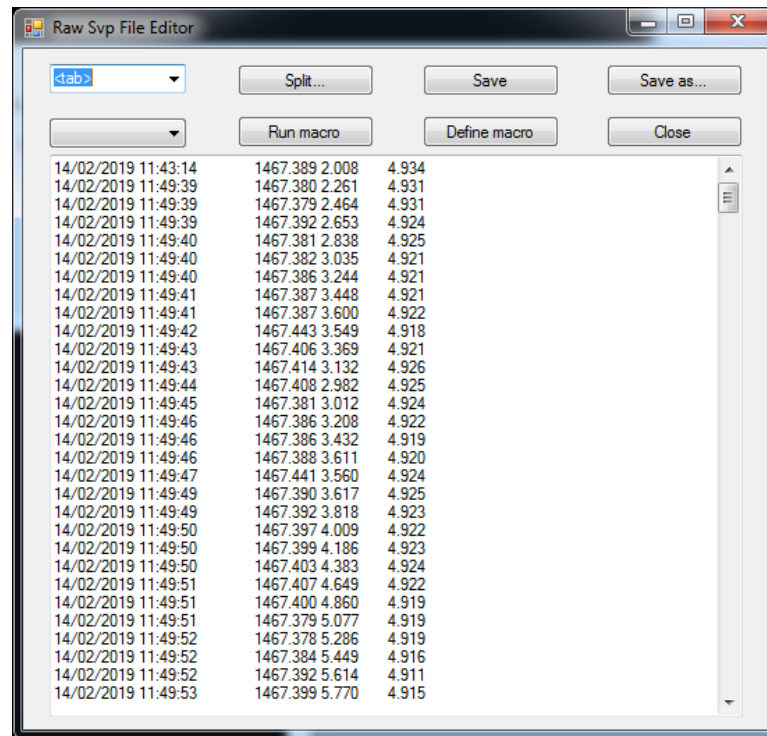

Figure 18: Choose delimiter
- Select the delimiter from the drop down list. Choose “<tab>”. (Figure 18)